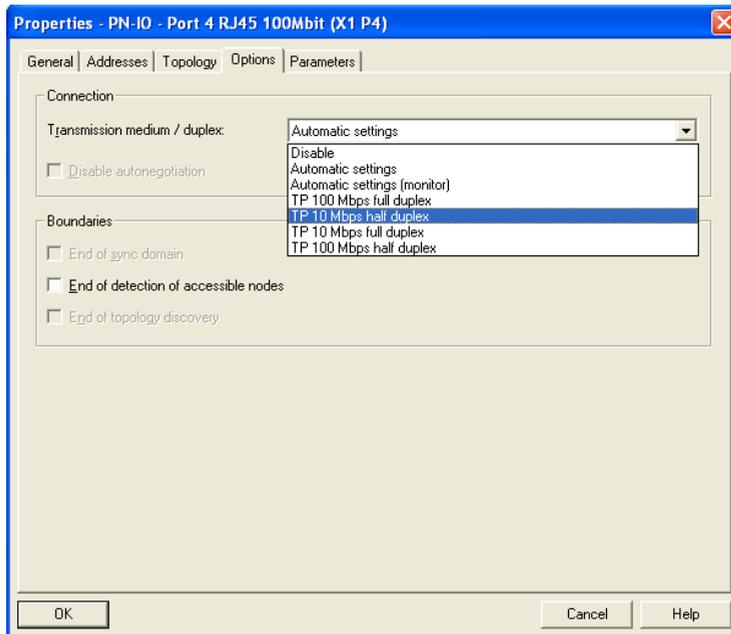

Figure 16: Dialog for entering the connection options
- Under "Connection/Transmission medium/duplex", select the desired setting for the port (see figure 16).